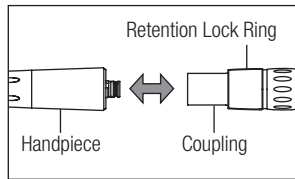

Fig. 2
- 1) Insert the handpiece into the coupling.(Fig. 2)
Pull back the Retention Lock Ring and remove the handpiece from the coupling.(Fig. 2)